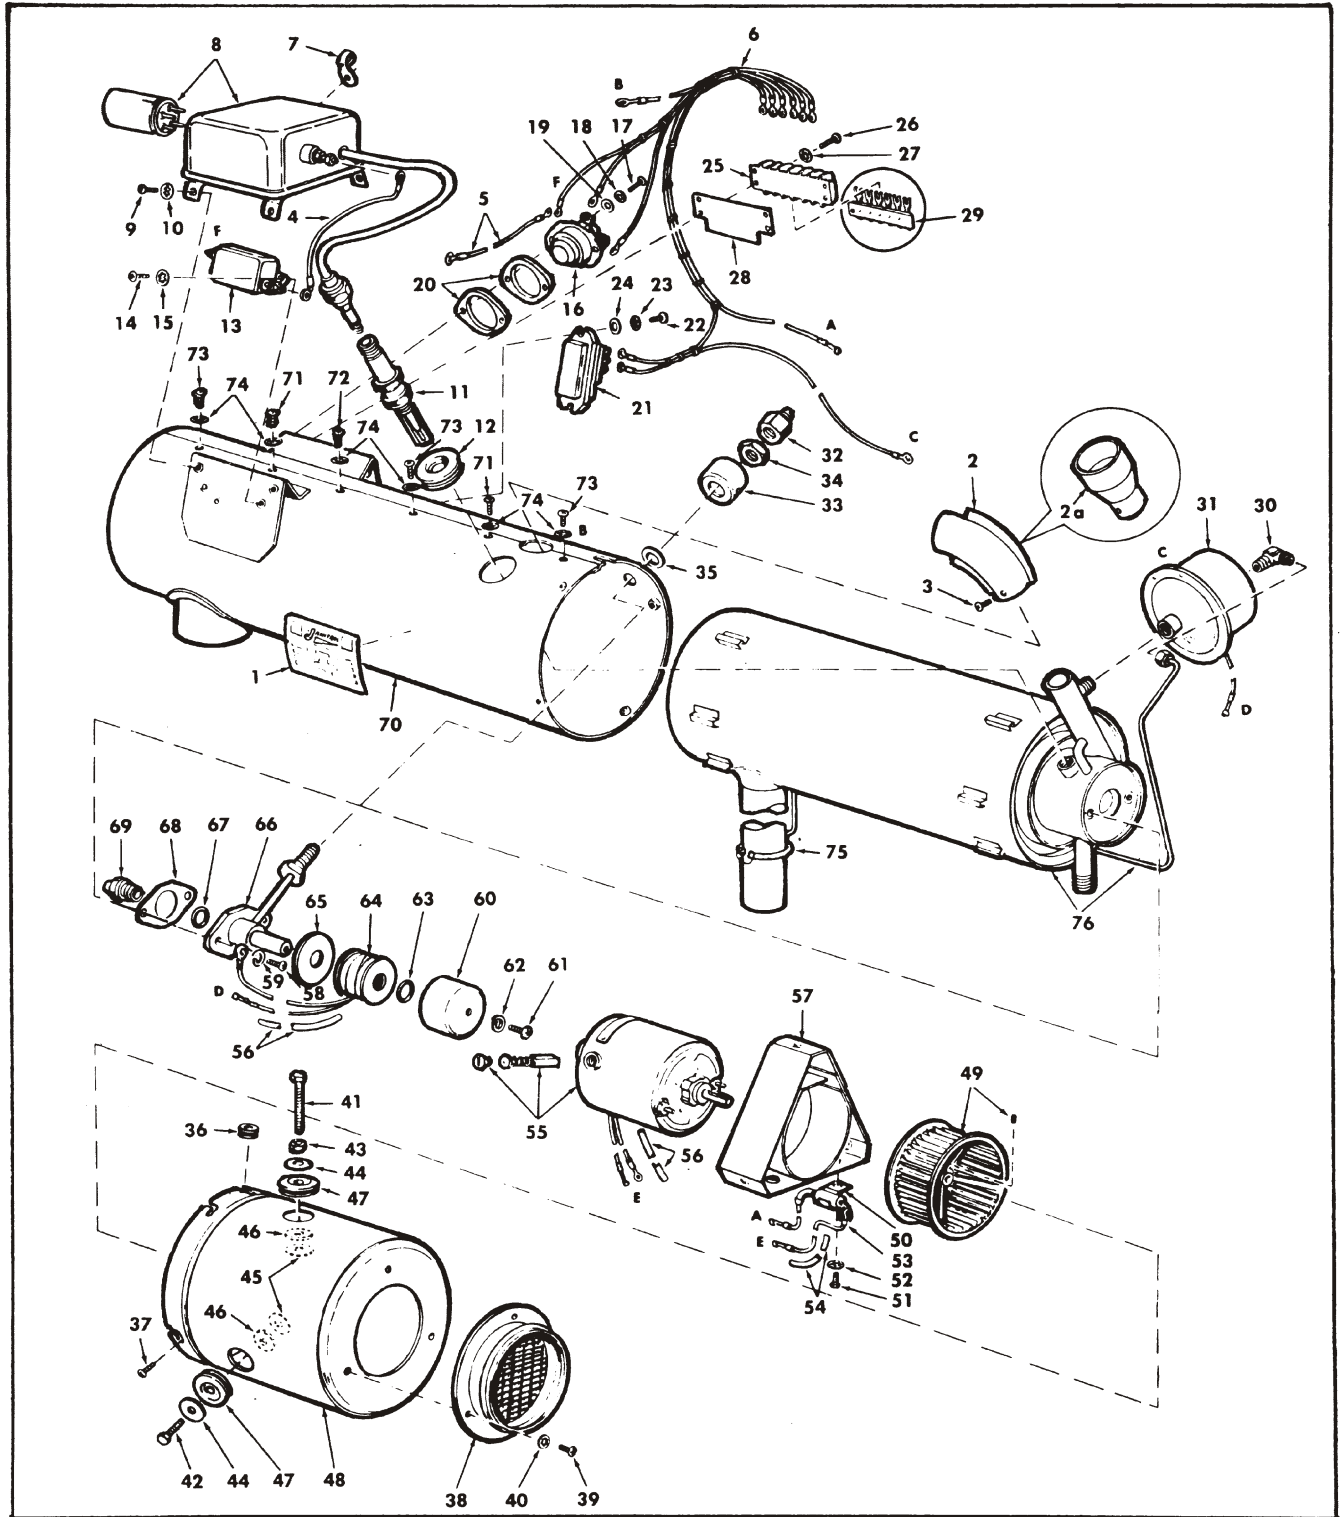

FIGURE 6-1 Exploded View of Business Aircraft Heater Assembly Non-Pressurized
(1) Using filtered compressed air, apply 20 psi to the shroud drain port, located on the surface near the threaded nozzle cavity.
(2) Immerse the fuel feed and nozzle holder assembly in clean water with the fuel inlet and nozzle cavity left open.
(3) Observe for bubbles which would indicate leakage. If bubbles appear at either fuel fitting, there is a leak in the fuel tube. If bubbles appear externally on the shroud tube, or at either end of the shroud tube juncture, the shroud tube is leaking.
(4) In either of the above cases, the complete fuel feed and nozzle holder assembly must be replaced.
e. Test the spray nozzle (69, Figure 6-1; 38, Figure 6-2) as follows:
(1) Install the nozzle in the fuel feed and nozzle holder assembly and connect the fuel tube to a 7.5 psi fuel pressure source for aviation gasoline heaters and 100 psi source for kerosene heaters.
(2) Connect the solenoid leads to a 12-volt or 24-volt battery (as required). Connect a switch in the line to open and close the solenoid when desired.
(3) With the switch closed (solenoid valve energized) and the fuel line connected, observe the fuel spray pattern. It should be conical in shape with even dispersion in all directions.
4.11 Reassembly (See Figure 6-1)
a. If removed during disassembly, slide the solenoid coil (64) on the stem of the nozzle holder and sole-
l. Insert the fitting on end of nozzle fuel tube through the opening in jacket (70) and attach the nozzle holder to the combustion tube assembly (76) with the two screws (58) and lockwashers (59). It may be necessary to place a slight bend in the shrouded fuel tube to permit alignment of screw holes. Be sure to use a new gasket (68) and connect the solenoid ground wire under one of these screws. Make sure a good electrical ground connection exists at this point.
m. Using a new spark plug gasket, install the spark plug (11) and tighten to a torque of 28 pounds-feet. Install the grommet (12) in the jacket around the spark plug.
n. Install the ignition assembly (8) on the jacket assembly (70) with the four screws (9) and lockwashers (10). Connect the high-voltage lead to the spark plug and tighten it to 20 pounds-feet.
o. Attach the radio-noise filter (13, Figure 6-1), not used on new ignition box (14, Figure 6-2), to the jacket assembly (70) with the two screws (14) and lockwashers (15).
p. Attach the overheat limit switch (16) and spacer gaskets (20) to the jacket assembly (70) with the two screws (17), lockwashers (18) and flat washers (19). Tighten the screws securely. (Sealed on some heaters.) After installing overheat limit switch (16) and cycling switch (21), visually check to make sure that switch does not come in contact with outer radiator.
q. Attach the cycling switch (21) to the jacket assembly (70) with the two screws (22), lockwashers (23) and flat washers (24). (Sealed on some heaters.)
r. Place the terminal strip insulator (28) in position on the jacket (70), followed by the terminal strip (25). Secure both parts by installing the two screws (26) and lockwashers (27). The two screws are located at two diagonal corners of the terminal strip.
s. Center the fuel fitting in jacket opening. Place the fuel fitting shroud gasket (35) and shroud (33) on the fuel fitting, and install the nut (34) finger tight. Insert a 3/4 inch open-end wrench inside the jacket and hold the fuel-tube fitting while tightening the nut (34) with a 3/4 inch deep socket. Install the reducer fitting (32), if used.
- t. Rotate the combustion air switch (31) onto the threaded fitting on the combustion air tube and tighten it firmly.
- u. Slide the grommet (36) over the combustion air tube and connect the tube to the elbow fitting (30) on the combustion air pressure switch (31). Grommet can be split for easier installation.
- v. Install the wiring harness (6) and connect all wire leads to their respective terminals. (Refer to the wiring diagram, Figure 2-6.) Place the grommet (36, Figure 6-1) in position in the jacket (70), locate the ventilating air housing (48) at the end of the jacket. Thread the quick disconnect on the wiring harness (see Figure 6-1) through the grommet (36) and connect it to the mating connector on the motor lead.
- w. Place the blower housing in position on the jacket assembly (70) and secure it by installing the four screws (37), if removed at disassembly. This operation is easier if the screws (37) are started into their threads and the blower housing rotated into place, allowing the screws to enter the notched openings in edge of blower housing. Tighten all screws securely.
- x. Install the elbow adapter (2), or the straight adapter (2a), as used on the particular heater involved, with the screw (3).